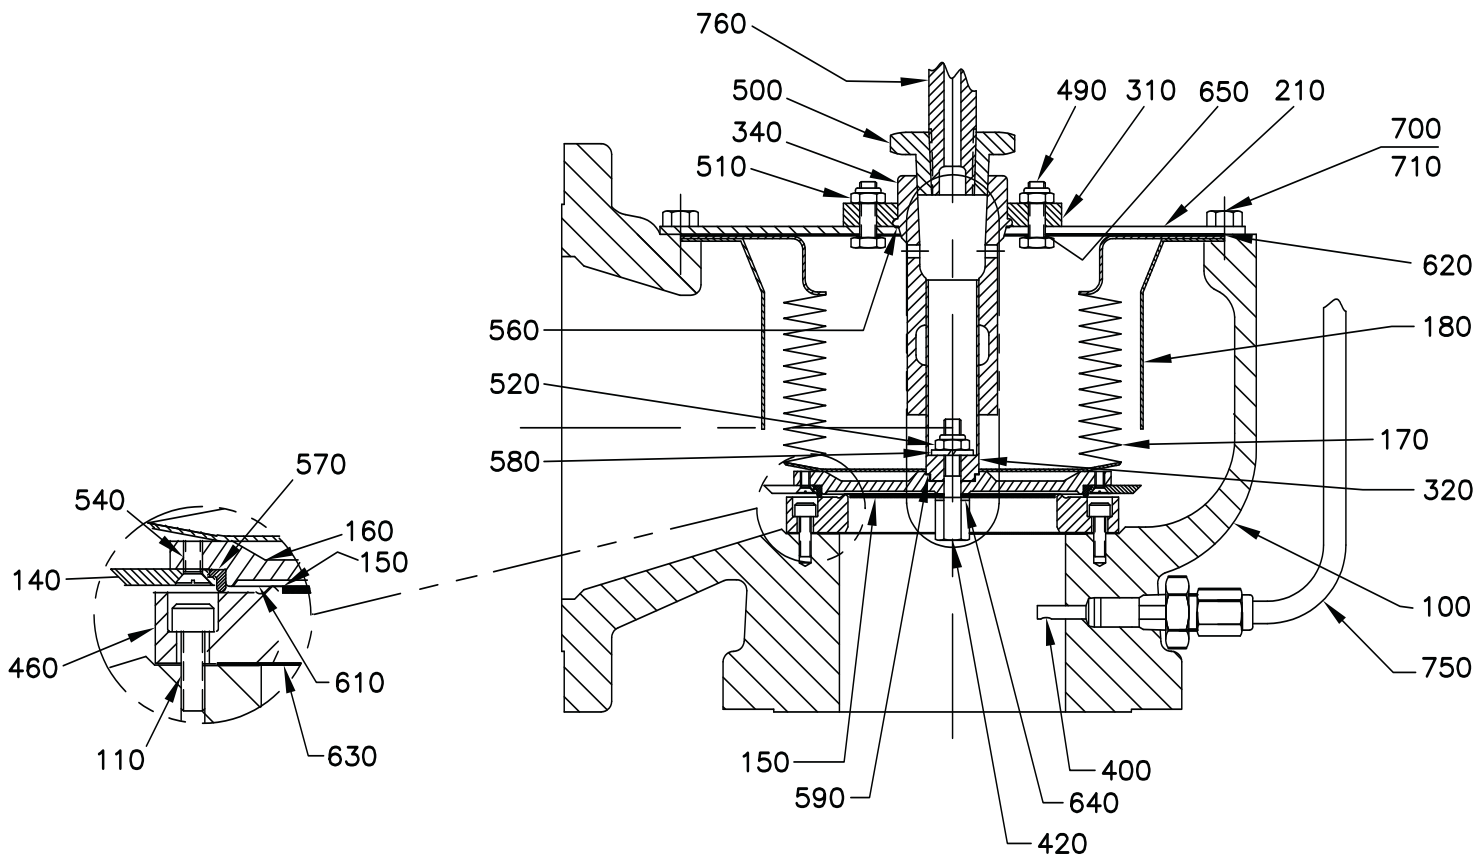

Figure 2
2.0 Main Valve Maintenance (Refer to Figure 2)
Install drag ring assembly around bellows guide in guide tower in sequence shown in Figure 2. The wedge and taper rings **must be fully seated** in the bottom of the tower. When properly assembled, these rings will be below the top of the bellows guide. Install the spring and spacer in the tower. Apply a light coat of lubricant to the hex bushing and install in the guide tower. It will be necessary to compress the spring to install the bushing.